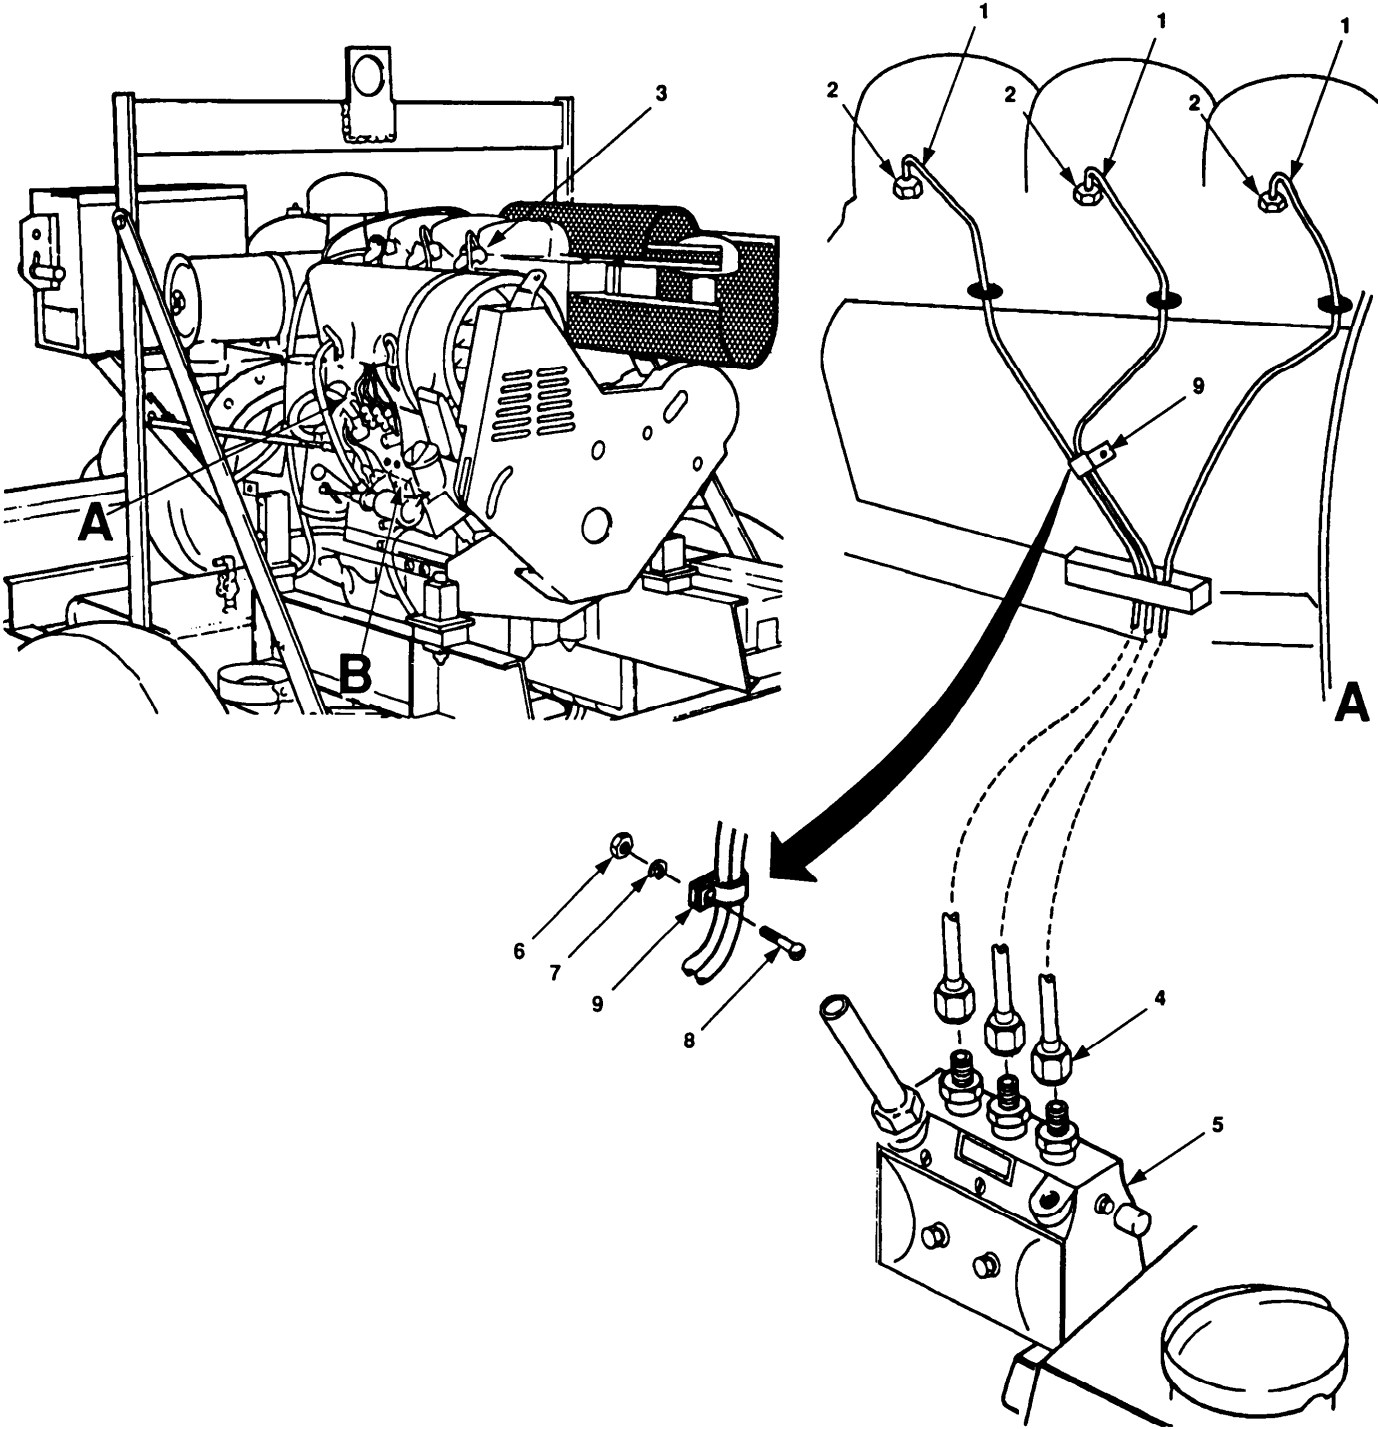

Figure 4-25. High Pressure Fuel Lines.
- (2) Remove banjo bolt, (6), washer (7), and washer (8).
- (3) Remove banjo bolt, (9), washer (10), connector (11), washer (12), washer (13) and return line (1).
- (4) Remove fluid restriction bolt (14), washer (15), connector (16), washer (17), and return line (2).
- i. Remove high pressure fuel lines (figure 4-25, 1) as follows:
- (1) Tag the three high pressure fuel lines (1).
- (2) Remove three nuts (2) at fuel injection nozzles (3).
- (3) Remove three nuts (4) at fuel injection pump (5).
- (4) Remove nut (6), lockwasher (7), bolt (8) and clamp (9).
- (5) Remove high pressure fuel lines (1) from engine.
- a. Install high pressure fuel lines (figure 4-25, 1) as follows:
- (1) Position high pressure fuel lines (1) on engine.
- (2) Install clamp (9), bolt (8), lockwasher (7) and nut (6).
- (3) Install three nuts (4) on fuel injection pump (5).
- (4) Install three nuts (2) on fuel injection nozzles (3) and remove tags.